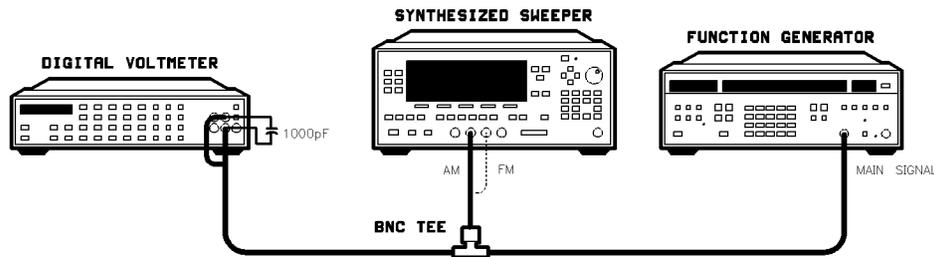

Figure 2-32. Modulation Meter Test Setup
1. Connect the equipment as shown in Figure 2-32. Preset the instruments and let them warm up for at least one hour.